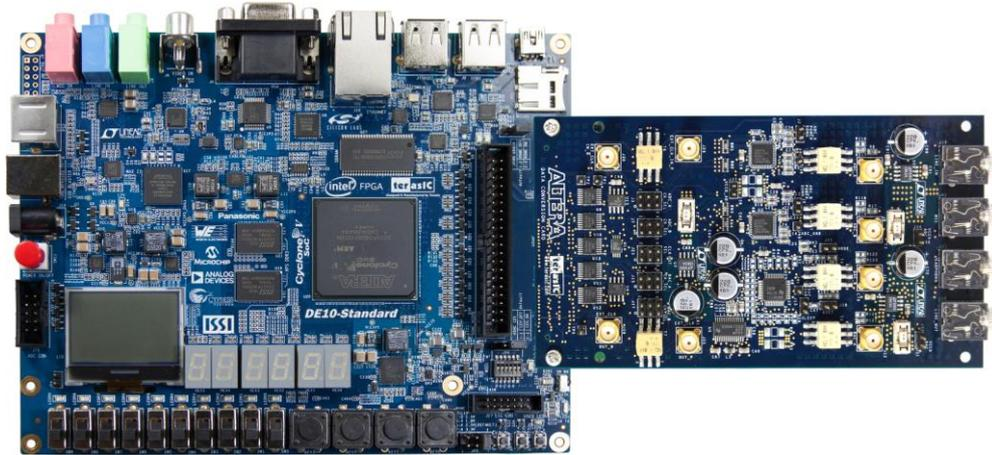
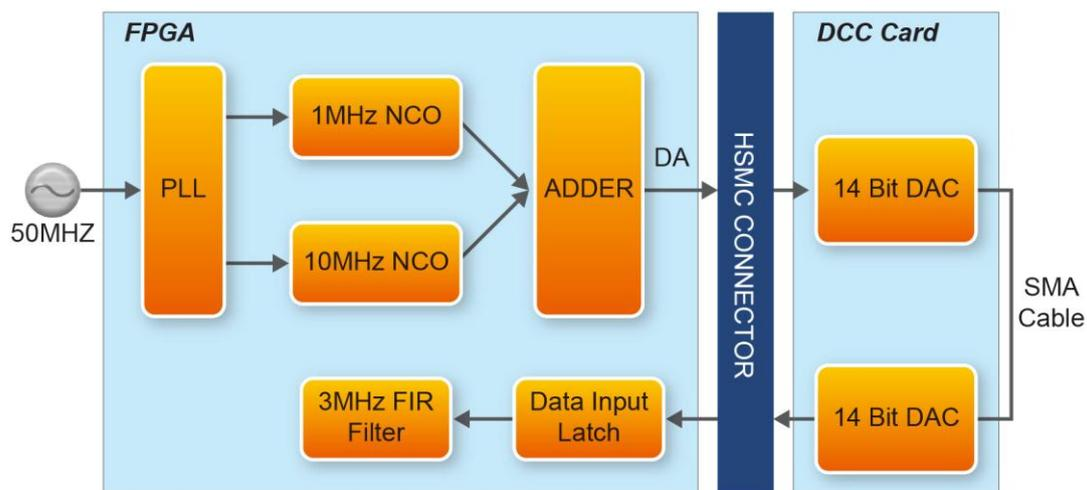

Figure 1 DCC Demo
Figure 3 System Block Diagram
This document illustrates how to setup the DCC demo on the DE10-Standard and the DCC(Data Conversion HSMC Daughter Board) as shown in **Figure 1**. The basic design content is also included. In this demonstration, please refer to the DE10-Standard user manual. For details about the DCC, please refer to the user manual of Data Conversion HSMC daughter card.
7. By switching the “SW0” on the DE10-Standard board in the “UP” position, it sets the data format in the A/D converter to “binary format”. Leaving the “SW0” in the “DOWN” position, will generate the data format in ‘Twos complement’ as shown in **Figure 1**.
Figure 3 shows the system block diagram of DCC demonstration. The Data Conversion HSMC daughter board reference design contains two sine waves that are generated by two instances of the Altera numerically controlled oscillator (NCO) MegaCore. One of these oscillators is running at 10 times the frequency of the other, but both of them have the same amplitude with each one covering 13 bits of dynamic range. From these blocks, the two sine waves output are converted from two's complement binary to unsigned binary format which then are added together. The combined sine wave signal of 14-bits dynamic range is sent to a 14-bit D/A converter. The analog output of a D/A converter is connected via SMA cable with the analog input of a 14-bit A/D converter. The A/D converter's digital output is looped back to the FPGA device. The A/D is configured by the dip switches to deliver the data in unsigned format. The converted loopback data is captured by an instance of the SignalTap® II logic analyzer in the design for 3 display and analysis. **Figure 1** shows a high-level view of the reference design and how it interacts with the D/A and A/D converters on the Data Conversion HSMC.